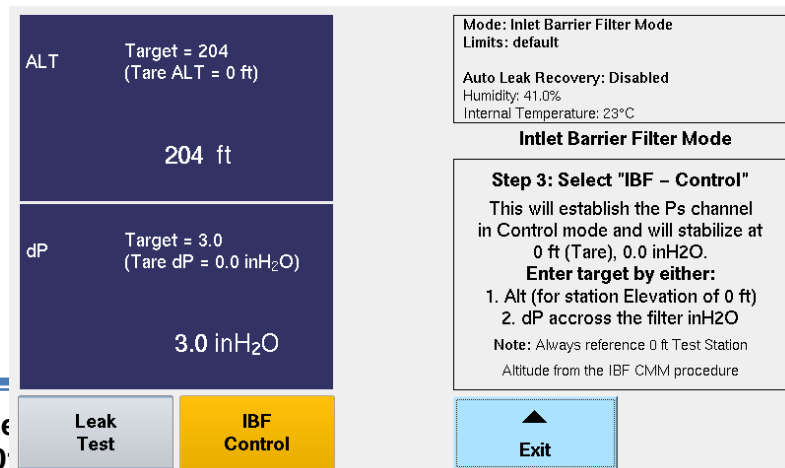

Figure H. 7 IBF Control Mode Screen
10. Step 3 screen is displayed and “IBF Control” button is enabled (Fig. H. 7).